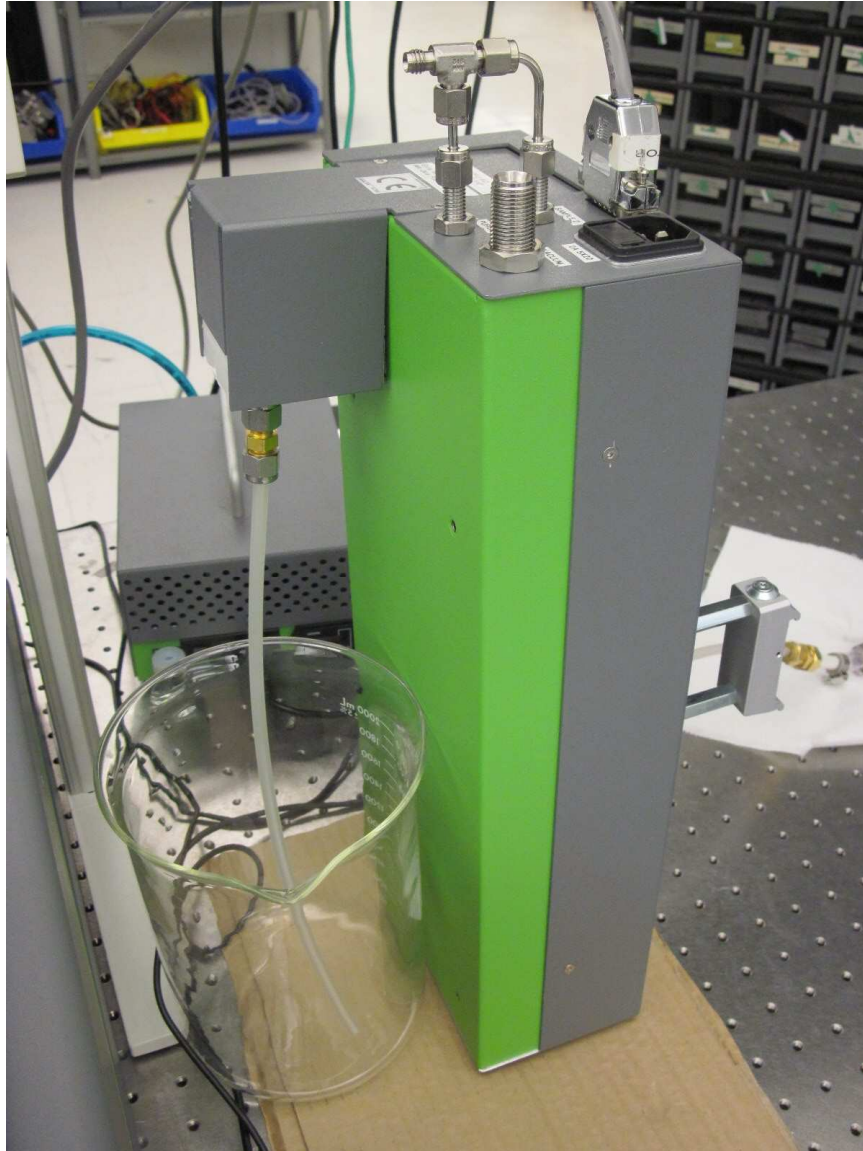

Figure 3. Vaporizer in vertical position on cardboard cutout showing drain at left and funnel connection at right.
7. Place vaporizer display-side down using a piece of cardboard with a notched cutout as in Figure 3.